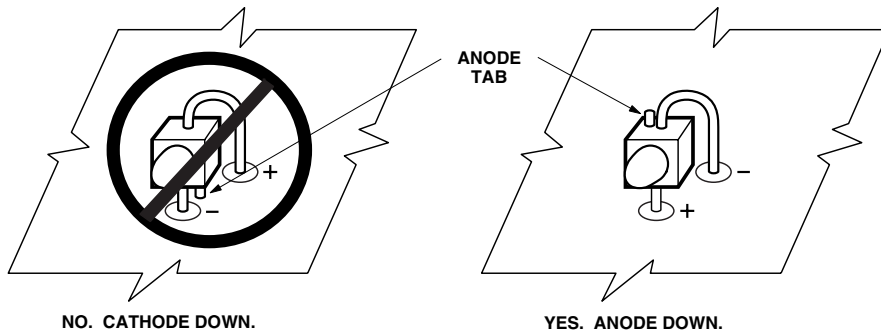

Figure 1. Proper right angle mounting to a PC board to prevent protruding anode tab from shorting to cathode connection.
* REFER TO FIGURE 1 FOR DESIGN CONCERNS.